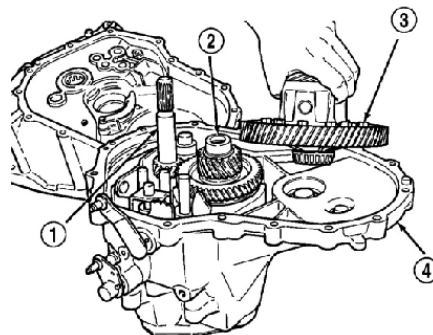

Figure 3-40 Disassembly of differential assembly
(7) Remove the roller bearing out of output shaft.
(8) Remove differential assembly (Figure 3-40).